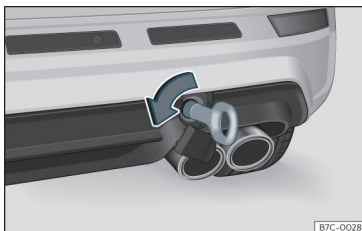

Fig. 44 On the right side of the rear bumper: towline anchorage in position.
- Screw the towing eye in the housing by turning it to the maximum **anticlockwise** >>> **Fig. 44** >>> **!**. Use a suitable object that can completely and securely tighten the towing eye in its housing.